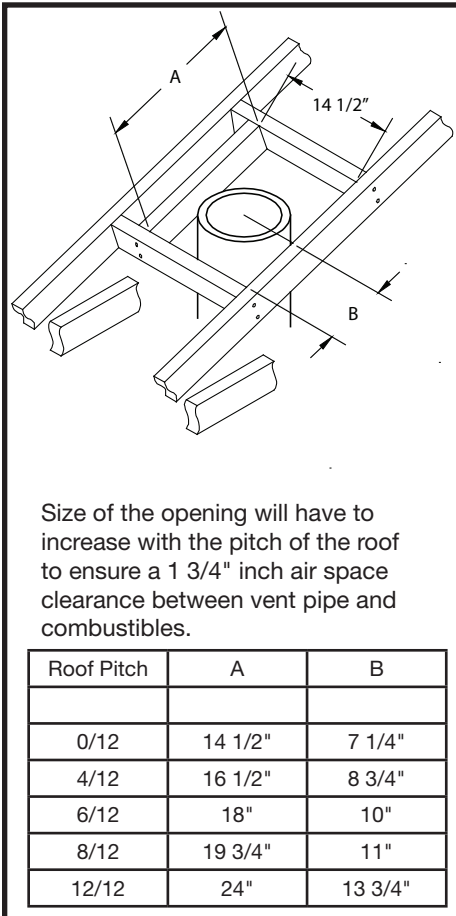

Figure 39: Roof opening frame
2. Continue adding vent pipe lengths up and through the firestop(s) and through the roof. The vent pipe must extend at least 12" above the roof. Vent pipe may need to extend further depending on the roof pitch. See Figure 39 for precise lengths.